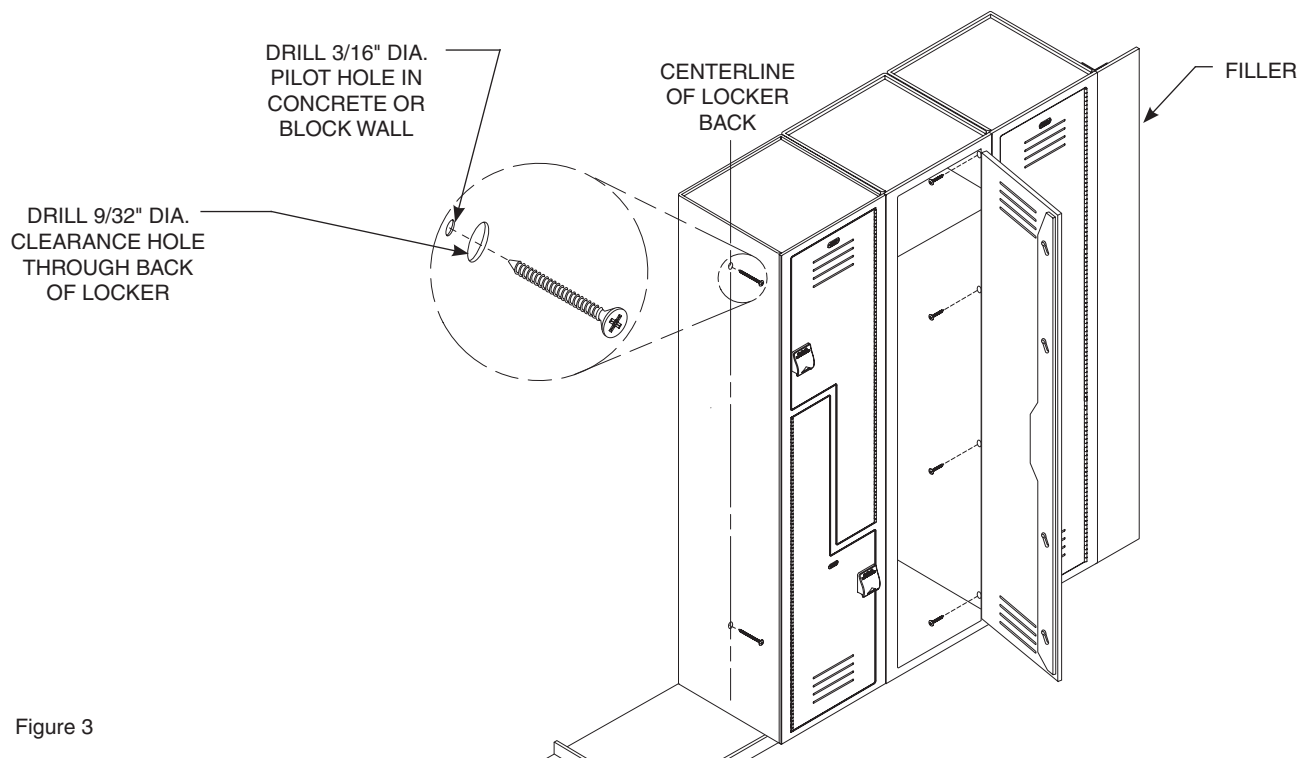

Figure 3
Corner fillers are designed to fill gaps in corners (a corner filler is shown in Figure 3 on page 6). They are attached to the locker with the #10-24 male and #10-24 x 1/2" female sex bolts provided.
1. Position the first locker according to your submittal layouts. Square and plumb the locker using shims as required. Secure the locker to the wall in two places with the two 1/4" x 1-3/4" Lg. Tapcon screws. With the screws centered across the width of the locker, place one near the top and one near the bottom as shown in Figure 3.
3. Temporarily clamp the lockers together at the top and bottom. Drill four 9/32" clearance holes through locker as shown in Figure 3. The holes should be located 1-1/2" from the front of the locker and evenly spaced, top to bottom. Fasten lockers to each other using the #10-24 male and #10-24 x 3/4" female sex bolts provided.
5. Secure each locker to the wall in two places with the appropriate wall installation hardware provided. Use two 1/4" x 1-3/4" Lg. Tapcon screws, placing one near the top and one near the bottom of the locker as shown in Figure 3.
2. Secure each locker to the wall in two places with two 1/4" x 1-3/4" Lg. Tapcon screws, placing one near the top and one near the bottom of the locker (refer to Figure 3 on page 6).
4. Secure each locker to the wall in two places with two 1/4" x 1-3/4" Lg. Tapcon screws, placing one near the top and one near the bottom of the locker (see Figure 3 on page 6).